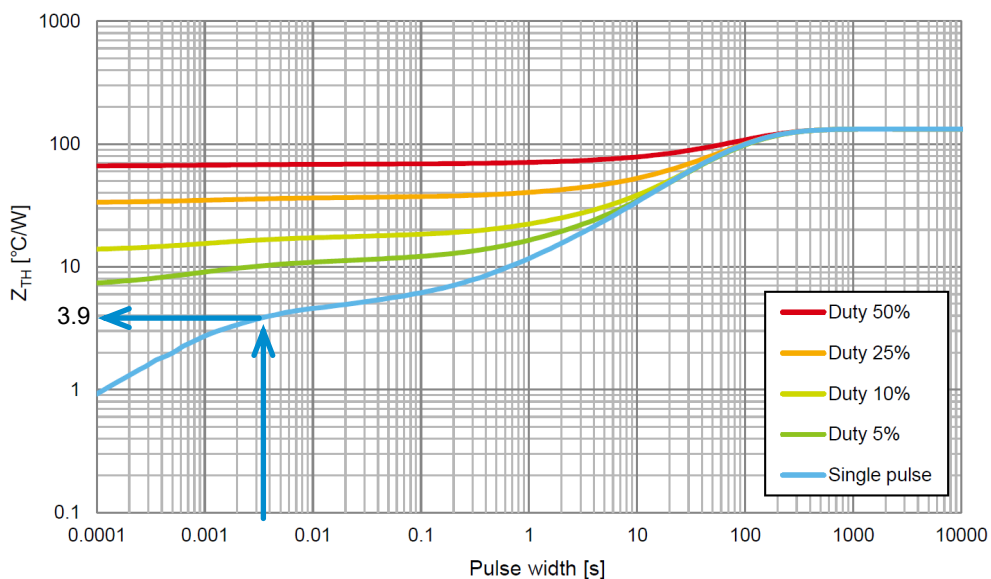

Figure 5. Transient thermal resistance of the TO252 package
4. Read the transient thermal resistance at 3.25 ms from the graph in Figure 5.